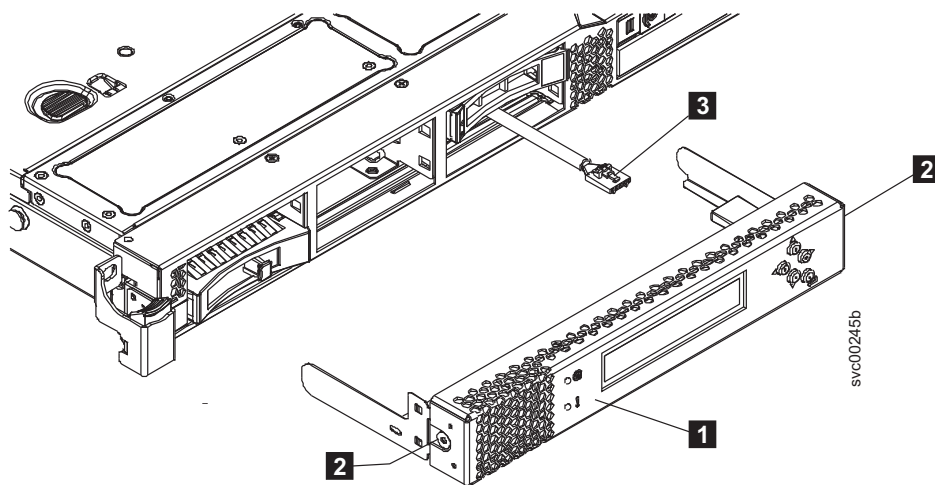

Figure 99. SAN Volume Controller 2145-CG8 or 2145-CF8 service controller
8. If you are intending to replace the service controller FRU, detach the USB cable, shown by 3 in Figure 99, from the service controller.